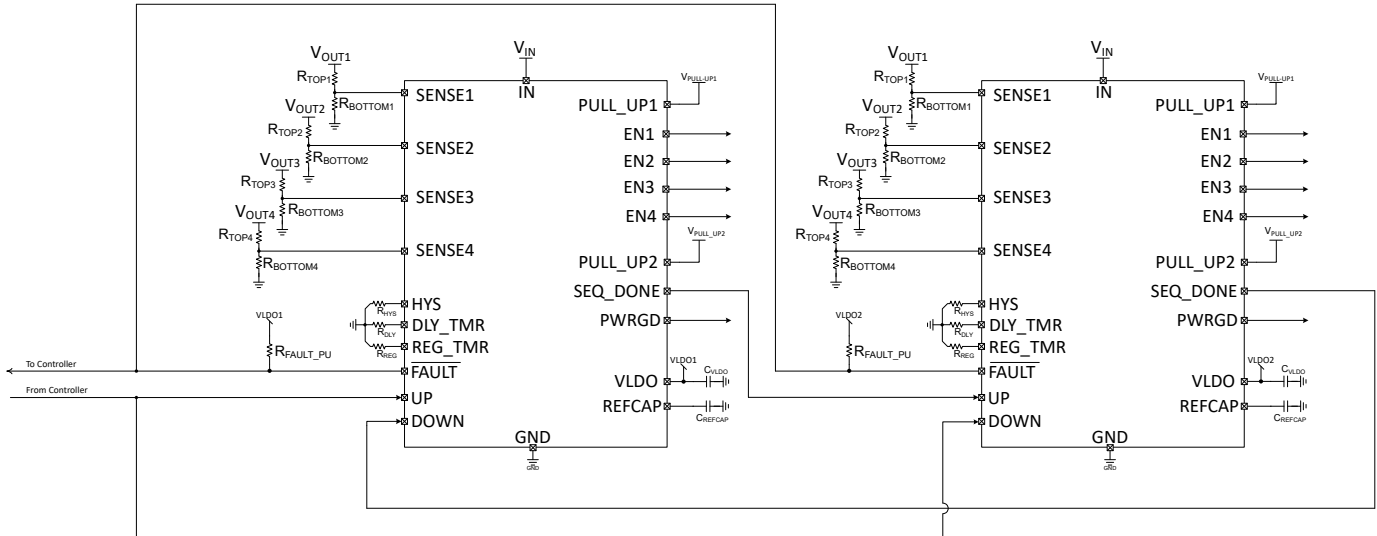

Figure 8-15. Daisy Chain Configuration
The TPS7H3014 incorporates four input channels to sequence/monitor up to four voltage rails. However, in the case where more than four channels are needed in the application, multiple devices can be daisy chained as needed. The daisy chain configuration is shown in Figure 8-15. In this case, only two devices are shown, however multiple IC can be configured as needed by the application.
3. PULL_UP2, which is the input supply to program the output voltage high (V_{OH}) of PWRGD and SEQ_DONE outputs. These outputs are typically connected to the system controller (typically an FPGA or ASIC) and/or to the house-keeping controller. In daisy chain configurations, SEQ_DONE is connected to UP of subsequent TPS7H3014 I.C. as shown in Figure 8-15. It is recommended to decouple this power supply with at least 1μF as close to the pin as possible. In this application, the V_{PULL_UP1} = 3.3V. This is a typical voltage of controller I/Os.